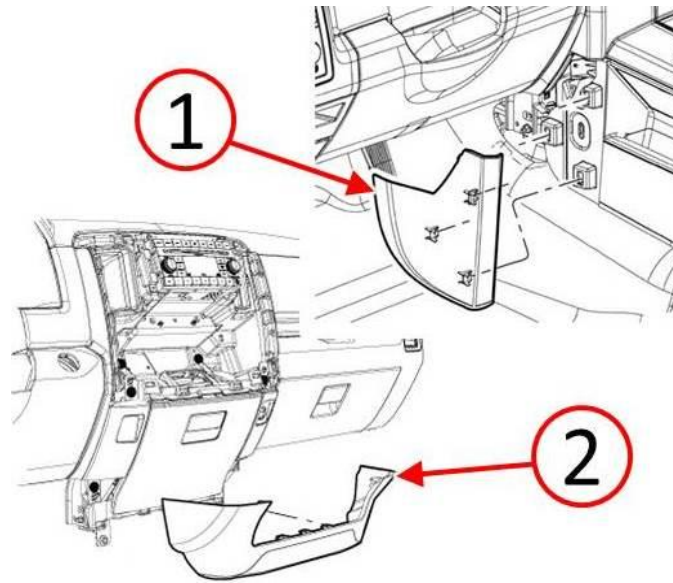

Fig. 1 Lower Center Instrument Panel Close Out Trim Covers
1. Remove the lower center instrument panel close out trim covers. Vehicles equipped with center console, remove both the left and right side trim covers (1) left side shown right side similar or vehicles equipped without center console, remove the single close out cover (2) (Fig. 1).
3. Install the lower center instrument panel close out trim covers (Fig. 1).